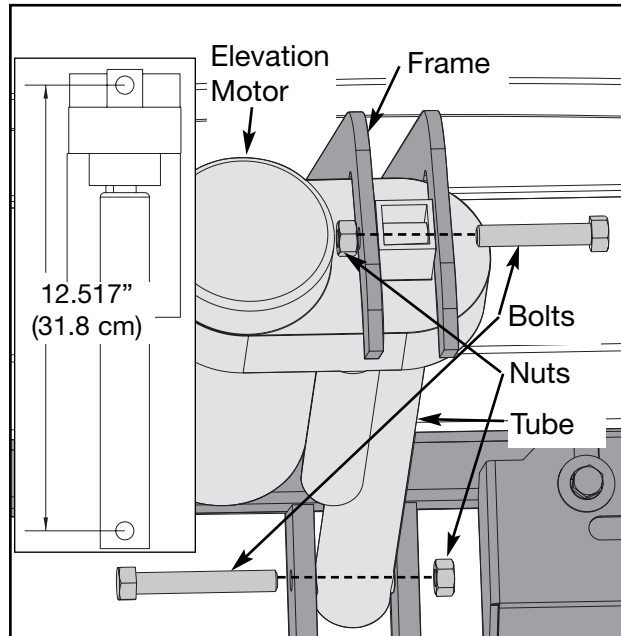

Figure 20
- B. Turn the tube with your fingers until it measures 12.517" (31.8 cm) from the center of the top hole to the center of the bottom hole. See Figure 20.
- A. Carefully place the elevation motor in position on the treadmill. See Figure 20.
- B. Slide both bolts into the slots and attached the hex nuts as shown in Figure 20.